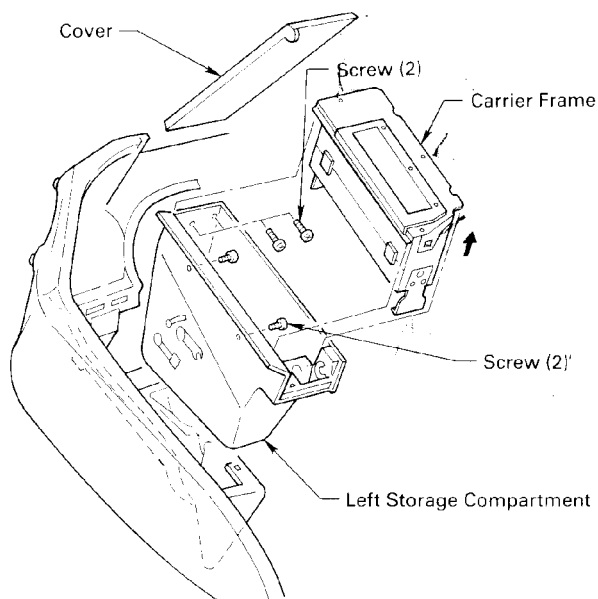

Figure 1*
1. Remove the protection cover and snap out carrier frame from the left-hand storage compartment. (Figure 1)
2. Remove left-hand storage compartment by removing the six phillips screws that hold it in place. Carefully guide the wire harness through, out of the storage compartment. (Figure 1)